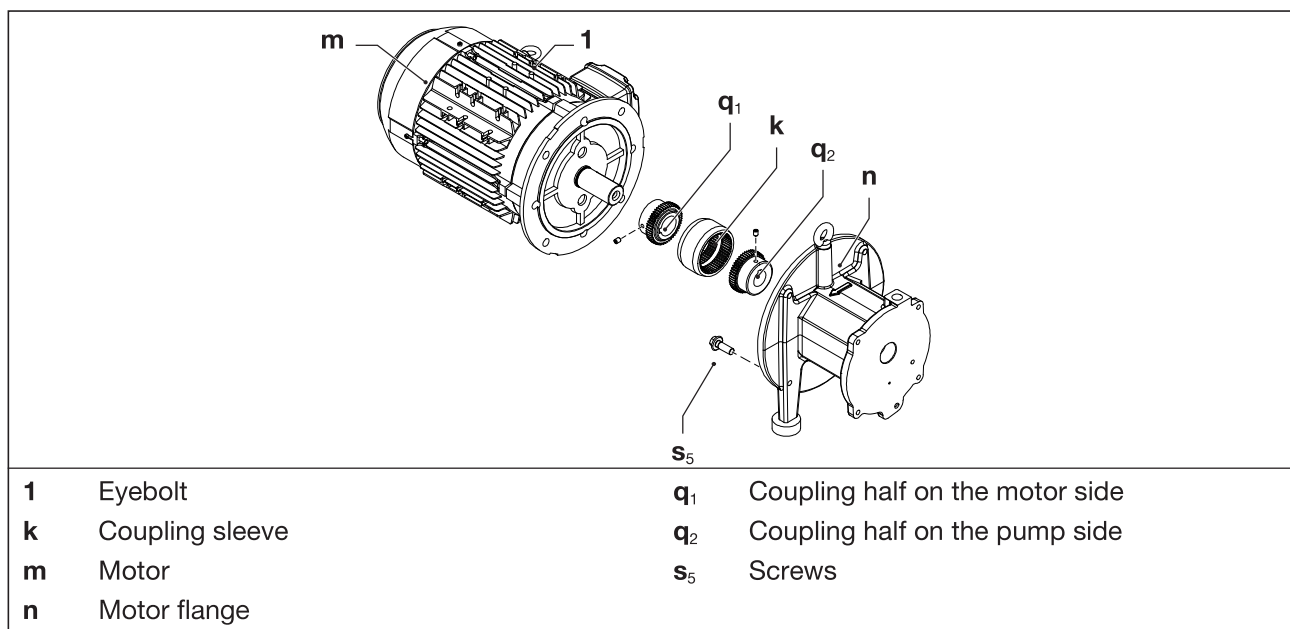

Fig. 10 Coupling
The coupling sleeve (Fig. 10/k) is subject to wear and must be checked regularly (at least 1 x per year).
- a) To check the coupling, switch off the motor (Fig. 10/m) and ensure that it cannot be switched on again.
- b) Tighten the eyebolt on the motor (Fig. 10/1) firmly.
- d) Undo the screws (Fig. 10/s₅) on the motor flange (Fig. 10/n).
- e) Remove the motor axially with the coupling half (Fig. 10/q₁) on the motor side from the motor flange (Fig. 10/n) and suspend with the lifting gear.
- f) Check the sleeve (Fig. 10/k) for damage and replace if necessary.
- g) Push the sleeve and motor with coupling half on the motor side again axially and using bolts (Fig. 10/s₅) fix to the motor flange (Fig. 10/n). Tightening torque: 90 Nm